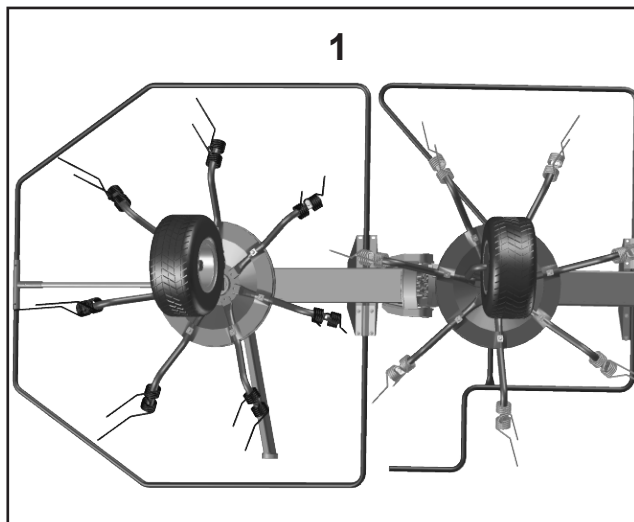

Figure 38
- 1) The spacing between the tines must be equal so that the tin from the outer wings fits in the center of the tines from the inner wing. (Figure 38)